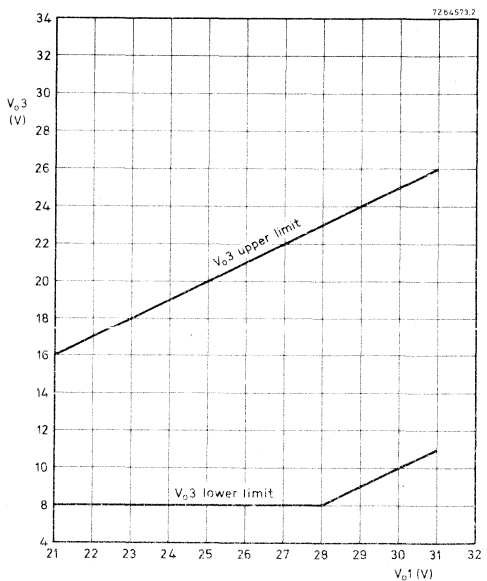

Fig. 4. Range of values for V_{03}
12. V_{O3} depends on the value of V_{O1} (see Fig. 4); adjustable with RA3.